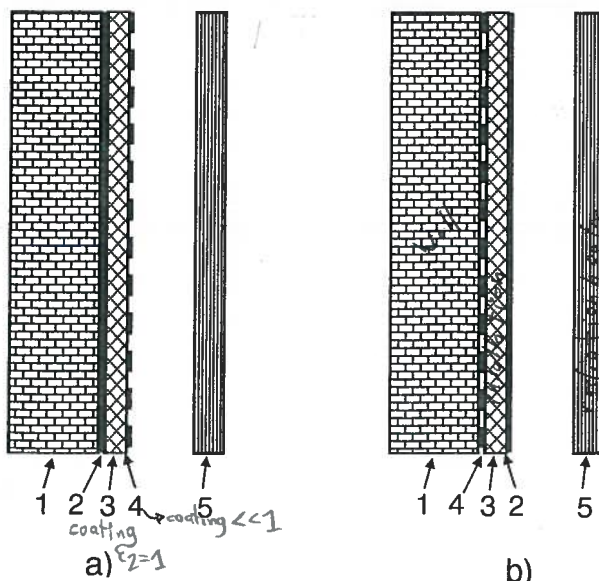

Fig. 2 Radiator on wall.
- (2 pnt) c). In figure 2 two situations are drawn of a wall (1) with radiation heater (5) mounted parallel. On the wall a thin sheet of insulation material (3) with a thickness d is glued. The insulation material has two different top-coatings. One coating (2) has an emissivity $\varepsilon_2 = 1$, the other coating (4) has emissivity $\varepsilon_4 < 1$. In case a) the coating with emissivity $\varepsilon_2=1$ is glued on the wall and the other coating is made facing the heater, while in case b) the coating with $\varepsilon_2=1$ is made facing the heater, and the coating with low emissivity is glued on the wall. In the insulation layer there is only heat conduction with a certain thermal conduction coefficient k . In between the radiator, and the top plane we assume that only thermal radiation occurs. The emissivity of the heater is $\varepsilon_5=1$.